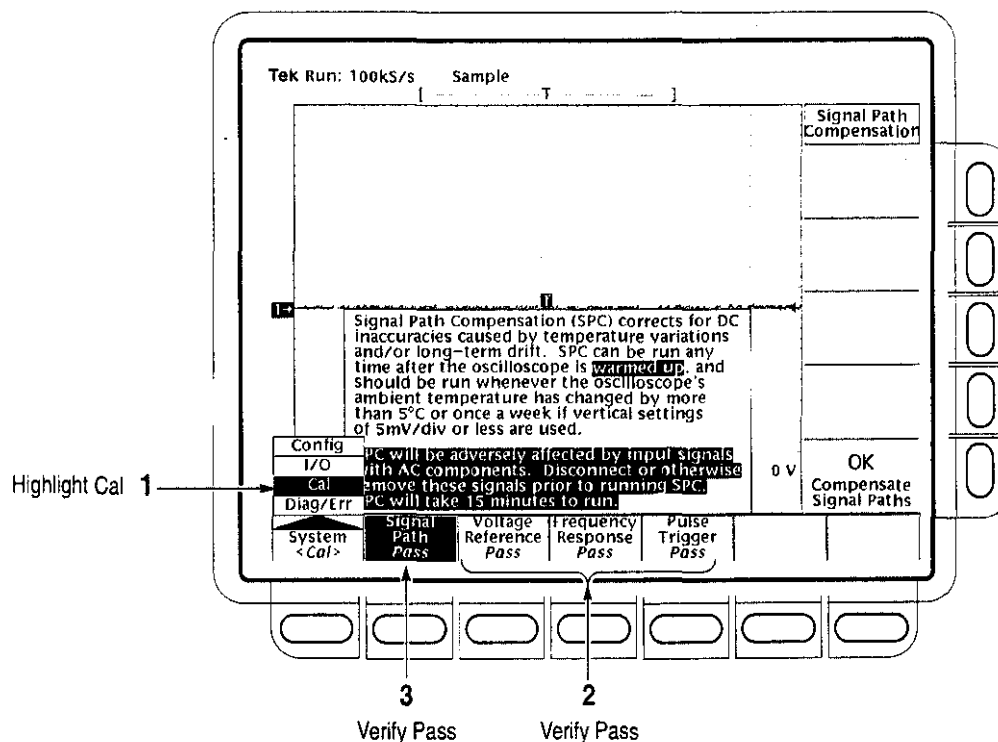

Figure 1-2: Verifying Adjustments and Signal-Path Compensation
- Highlight **Cal** in the pop-up menu by repeatedly pressing the main-menu button **System**. See Figure 1-2.
- Verify that the word **Pass** appears in the main menu under the following menu labels: **Voltage Reference**, **Frequency Response**, and **Pulse Trigger**. See Figure 1-2.
- h. *Confirm signal-path compensation returns passed status:* Verify that the word **Pass** appears under **Signal Path** in the main menu. See Figure 1-2.